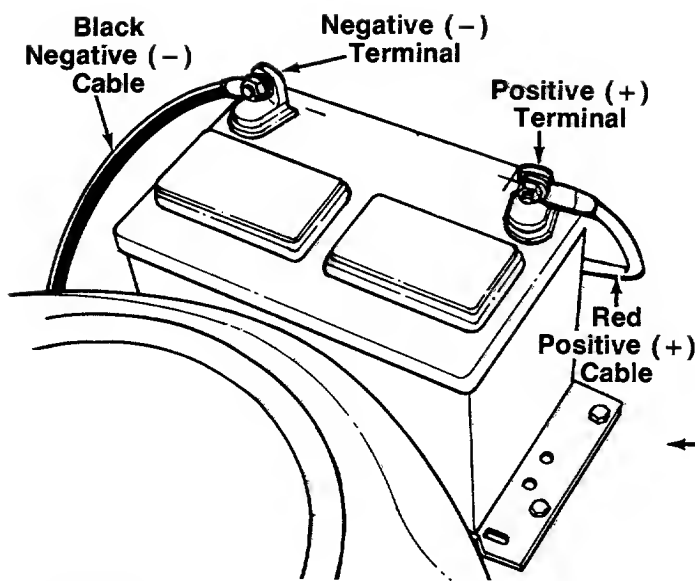

FIGURE 6.
2. Attach the positive cable (heavy red wire) to the positive battery terminal (+) with hex bolt 5/8" long, 1/4" lock washer and hex nut. See figure 6.